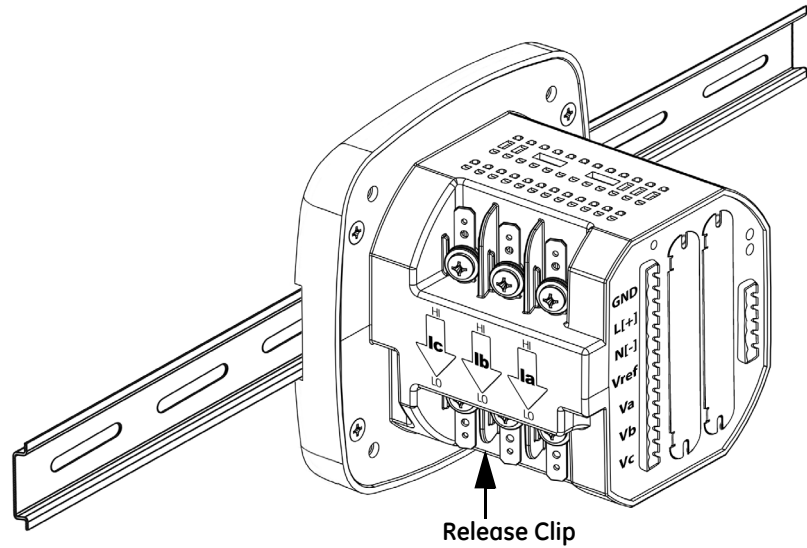

Figure 3-7: Transducer on DIN rail
- To remove the meter from the DIN Rail, pull down on the Release Clip to detach the unit from the rail (see Figure 3.7).